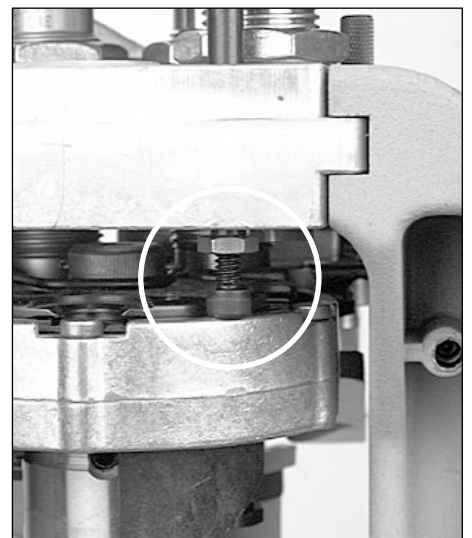
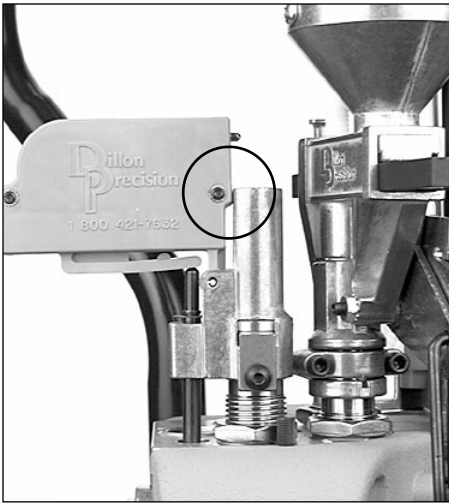

FIG 59
FIG 60
6. **FIG 59** Screw the 10-24 screw and nut fully into the rod. Raise the platform. Unscrew the 10-24 screw until it contacts the edge of the platform **FIG 59**. Lower the platform part way and unscrew the screw (counter-clockwise) until raising the platform causes the buzzer housing to gently rock into the side of the die collar **FIG 60**.